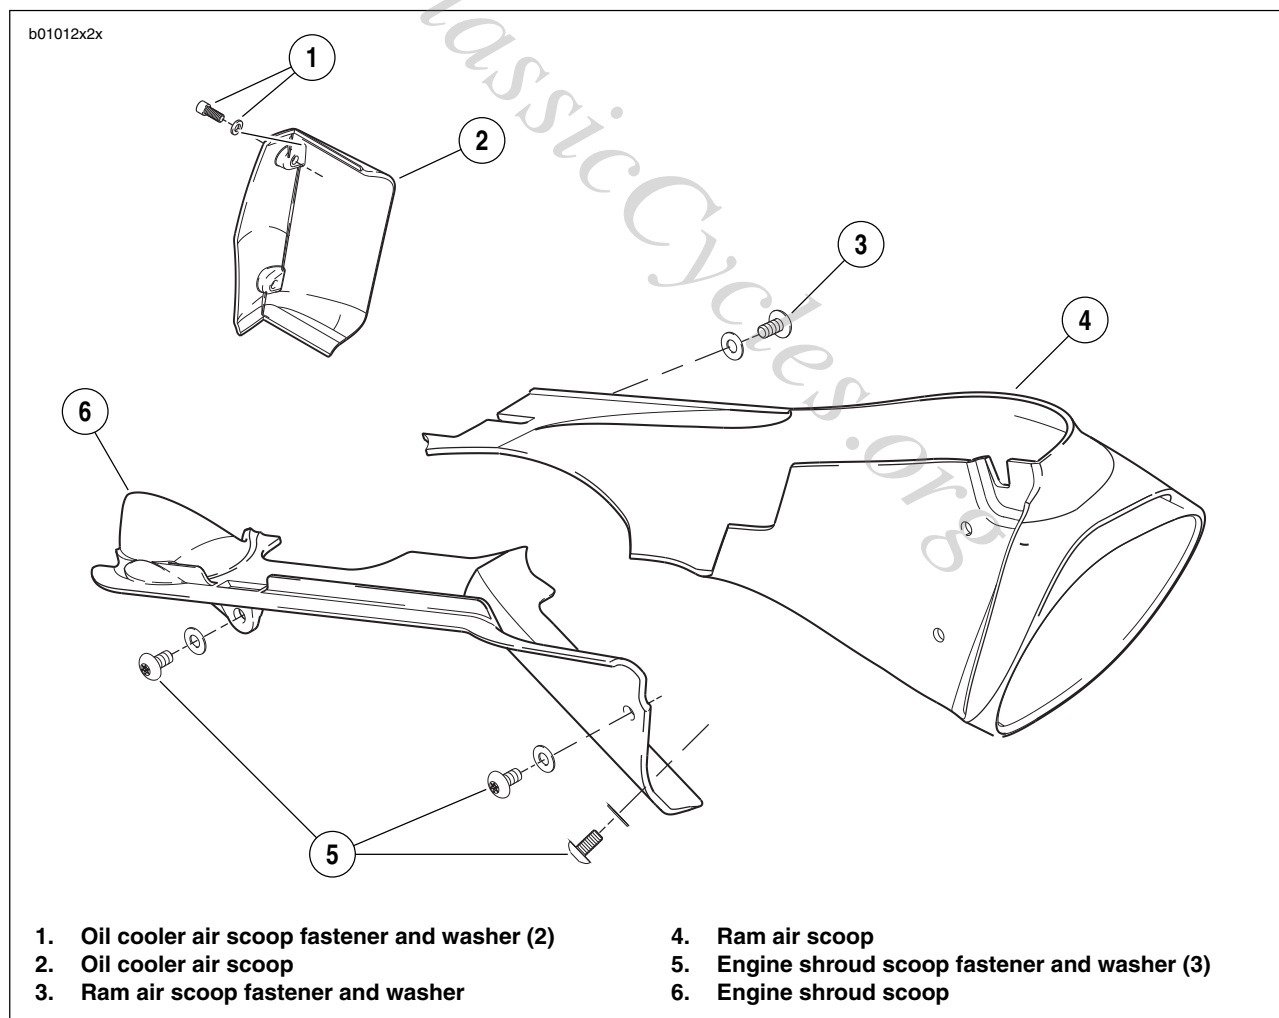

Figure 2-119. Ram Air Scoop, Engine Shroud, Oil Cooler
1. See Figure 2-119. On left side of bike, locate ram air scoop (4).
2. Remove three ram air scoop fasteners (3).
3. Remove ram air scoop (4).
1. See Figure 2-119. Position ram air scoop (4).
2. Install ram air scoop (4) with three fasteners (3). Tighten to 12-36 **in-lbs** (1-4 Nm).
1. See Figure 2-119. On right side of bike, locate engine shroud air scoop (6).
2. Remove three engine shroud air scoop fasteners (5).
3. Remove engine shroud air scoop (6).
1. See Figure 2-119. Position engine shroud air scoop (6).
2. Install engine shroud air scoop (6) with three fasteners (5). Tighten to 12-36 **in-lbs** (1-4 Nm).
1. See Figure 2-119. On left side of bike, locate oil cooler air scoop (2).
2. Remove two oil cooler air scoop fasteners (1).
3. Remove oil cooler air scoop (2).
1. See Figure 2-119. Position oil cooler air scoop (2).
2. Apply LOCTITE 272 (red) to oil cooler air scoop fasteners (1) and tighten to 120-144 **in-lbs** (14-16 Nm).